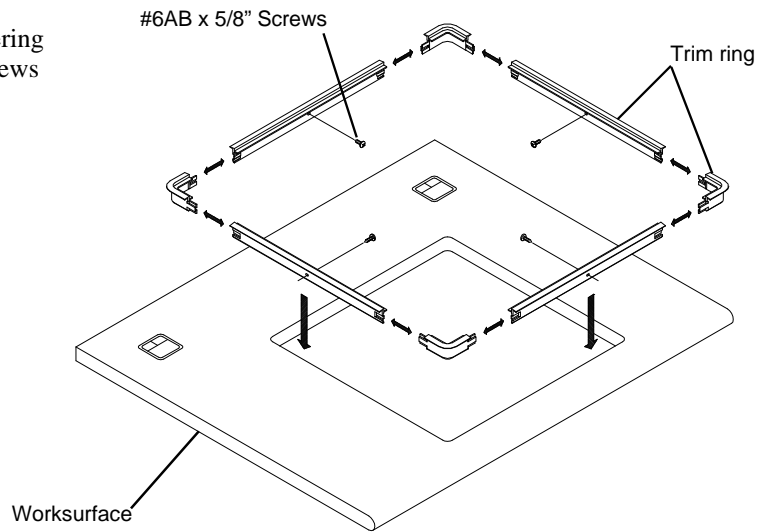

Figure 6
6. Install **Trim Ring** by snapping pieces together, lowering into cut-out and attaching with four #6AB x 5/8" screws provided. See **Figure 6**.